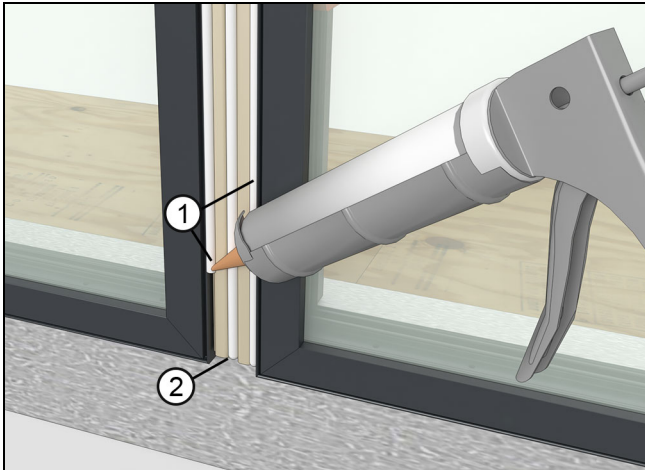

Figure 155
37. Apply three beads of sealant over the mull fillers--one on each side (between the fillers and frame) and one in the middle. See Figure 155